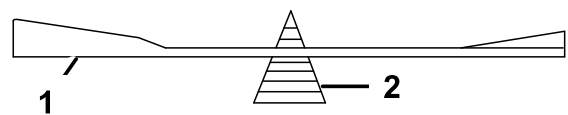

Figure 103
2. Check the balance of the blade by putting it on a blade balancer (Figure 103).